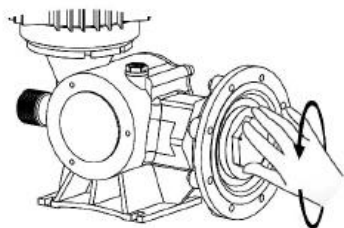

Figure 9
- ◆ Turn the diaphragm counterclockwise by hand or wrench, and the diaphragm will be loosened and separated from the push rod (See figure 9).